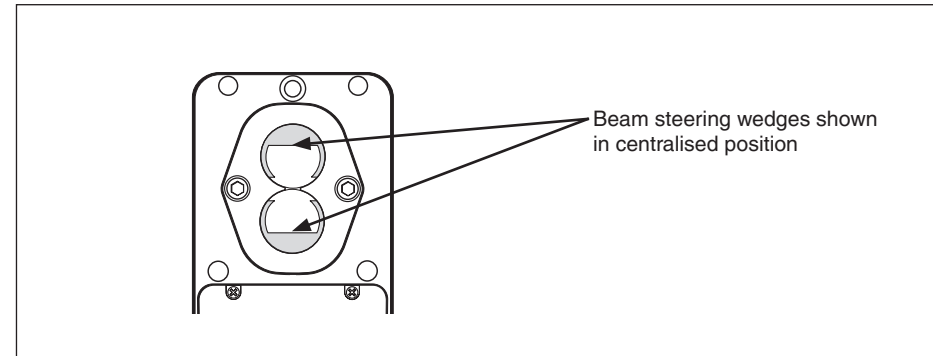

Figure 44 Steering wedges in centralised position
1. Before inserting the barrel into the detector, centralise all four beam steerers so that the steering wedges appear as shown in Figure 44. Move the measurement mirror as close to the detector as possible.